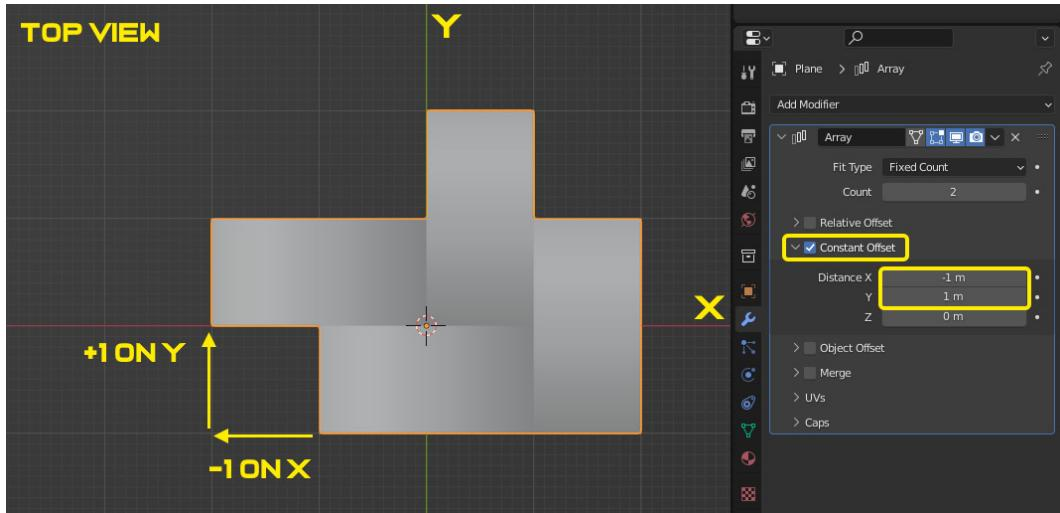

Figure 6.3 – Constant Offset
3. In the top view, add an **Array** modifier and check **Constant Offset** instead of **Relative Offset**. Set the X and Y distances so that the shape is tiled perfectly, as shown in *Figure 6.3*: